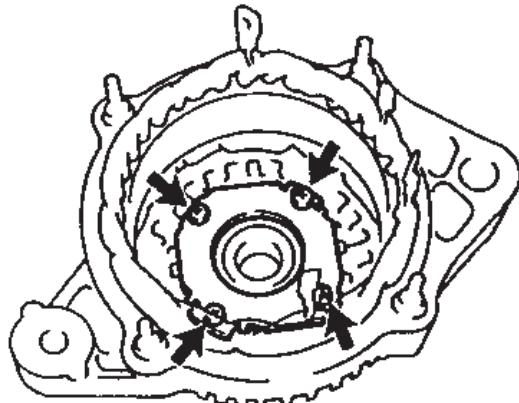

Figure 11-27
2. Remove the 4 bearing retainer screws and bearing retainer (**Figure 11-27**).